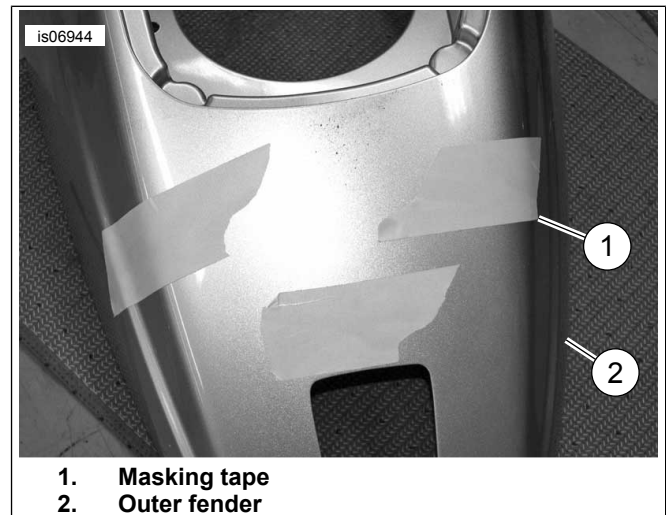

Figure 1. Apply Masking Tape to Outer Fender
3. See Figure 1. Place masking tape over the three drill points to prevent the paint from chipping when the holes are drilled.